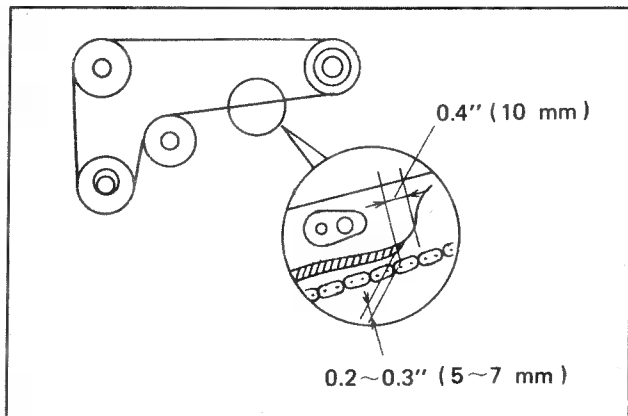

FIGURE 2
9. After the operation in 7 above, insert the eccentric idle shaft serrated end into the idle shaft plate in a screwing motion. The chain should have a slack of 5 to 10 mm at A in Fig. 2. Next, install the idle shaft plate.